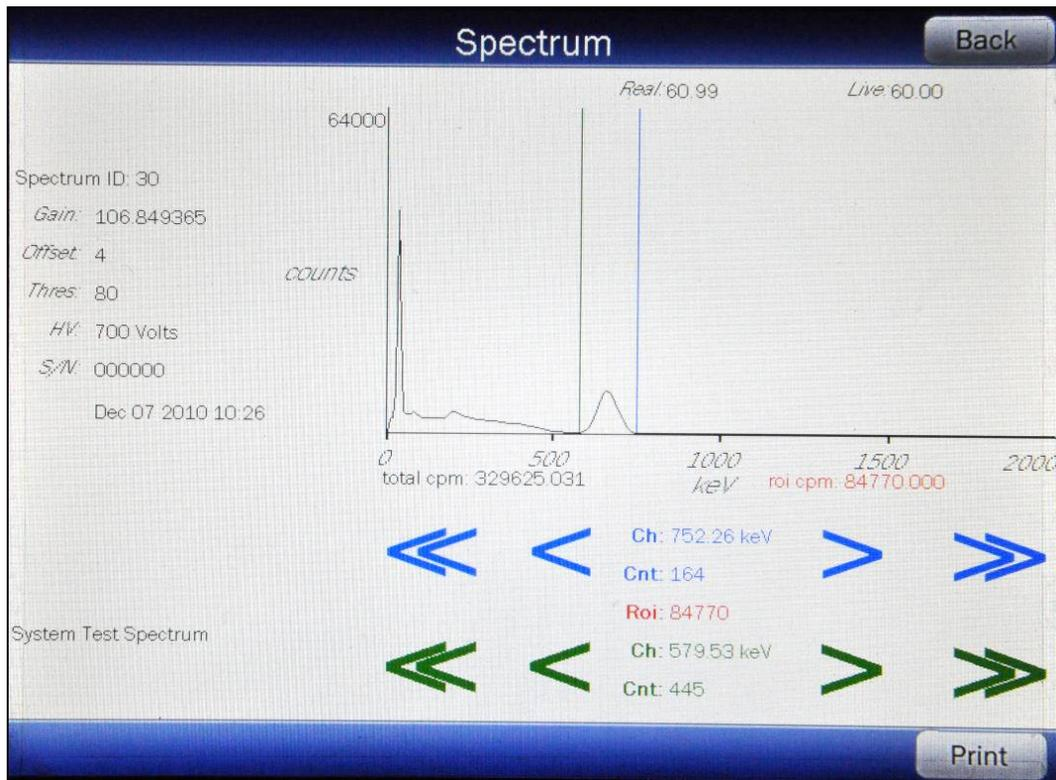

Figure 10-22 Spectrum Screen
To view the spectrum for a specific measurement (**Background (B)**, **Whole Blood Standard (W)**, **Whole Blood Sample (S)**, **Plasma Standard (P)** or **Plasma Sample (L)**), touch the blue highlighted count rate box beside the desired measurement. The Spectrum Screen (similar to Figure 10-22 Spectrum Screen) will appear.